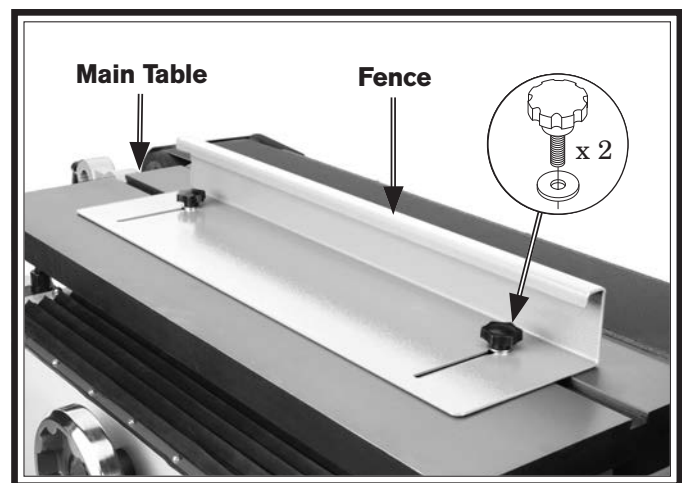

Figure 51. Fence installed on main table.
2. Set fence on main table and align slots with threaded holes in table (see **Figure 51**).
3. Secure fence to table with (2) $\frac{5}{16}$ "-18 x 1" knob bolts and $\frac{5}{16}$ " fender washers (see **Figure 51**).